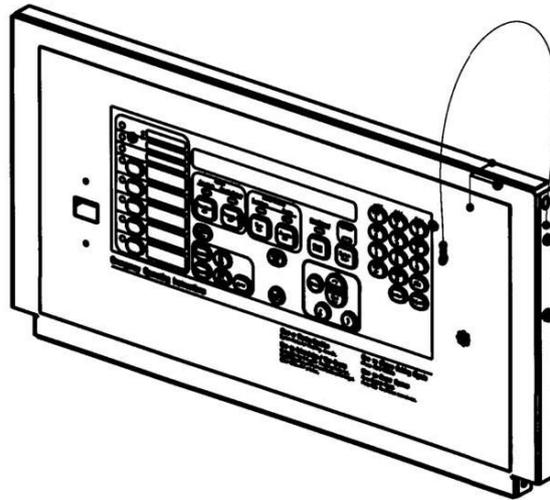

Figure 13 – Replacement 2x40 LCD Legacy Bay Door
- As for 4100-KT0488 (use relevant parts only – see Figure 13).